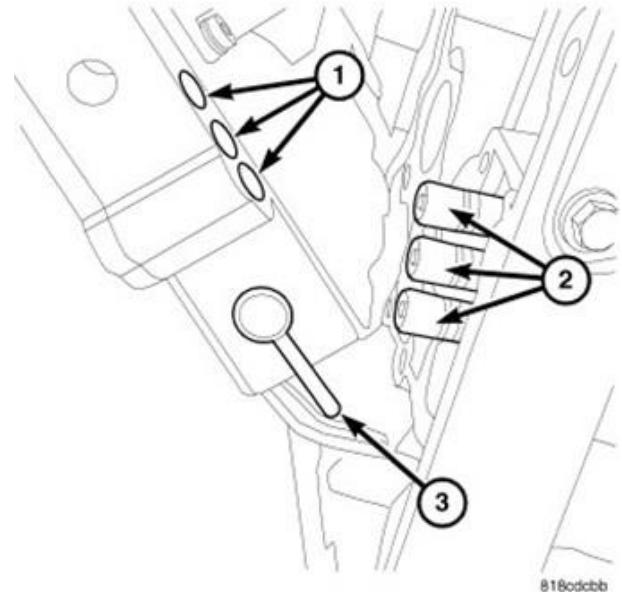

Figure 15 – Valve Body
**NOTE:** It may be necessary to use needle nose pliers or similar tool to push the oil transfer tubes (2) toward the transmission releasing them from the valve body (1) during valve body removal (Figure 15).
**NOTE:** For reassembly, pay attention to alignment of manual valve pin (3) in the range selector rooster comb (Figure 15).
- 25. Carefully remove the valve body (1) being careful to not damage the valve body gasket on the back side of the valve body (Figure 15).